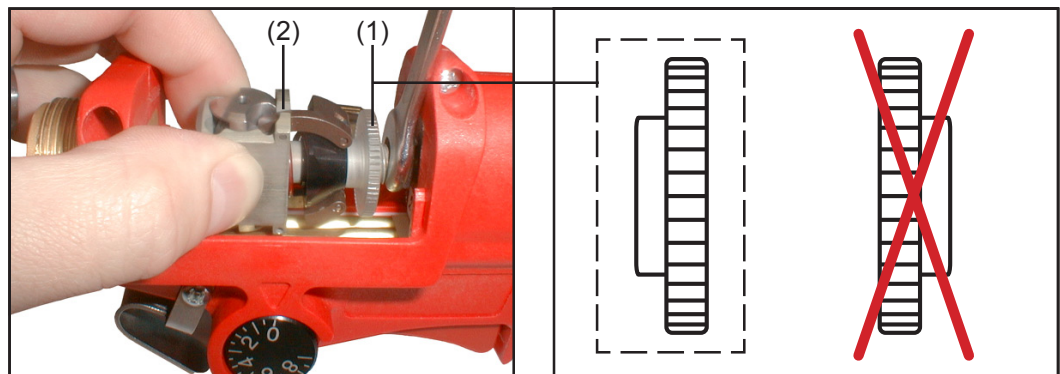

Fig.41 Mounting the drive-head
- Screw the knurled nut (1) to the drive-head, the right way round (see Fig.41 for correct position)